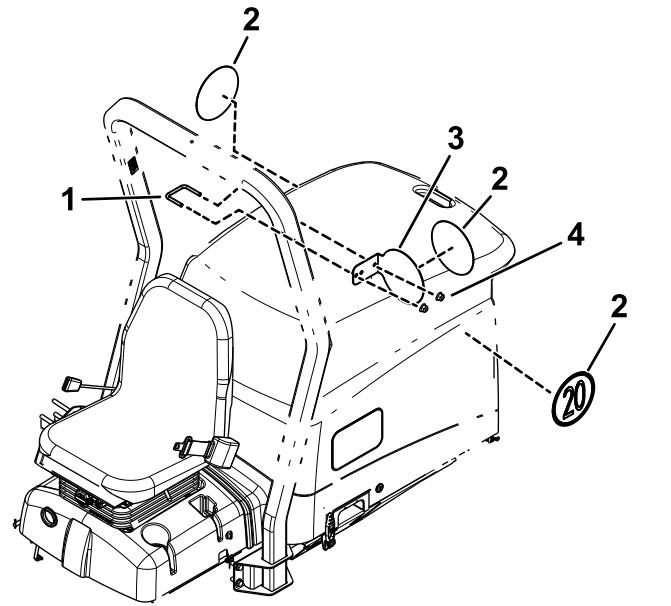

Figure 24
1. Adhere a sign on both sides of the machine (Figure 24).
2. Use a U-bolt and 2 flange nuts (3/8 inch) to secure the speed plate to the left side of the roll bar (Figure 24).
3. Adhere a sign to the speed plate (Figure 24).